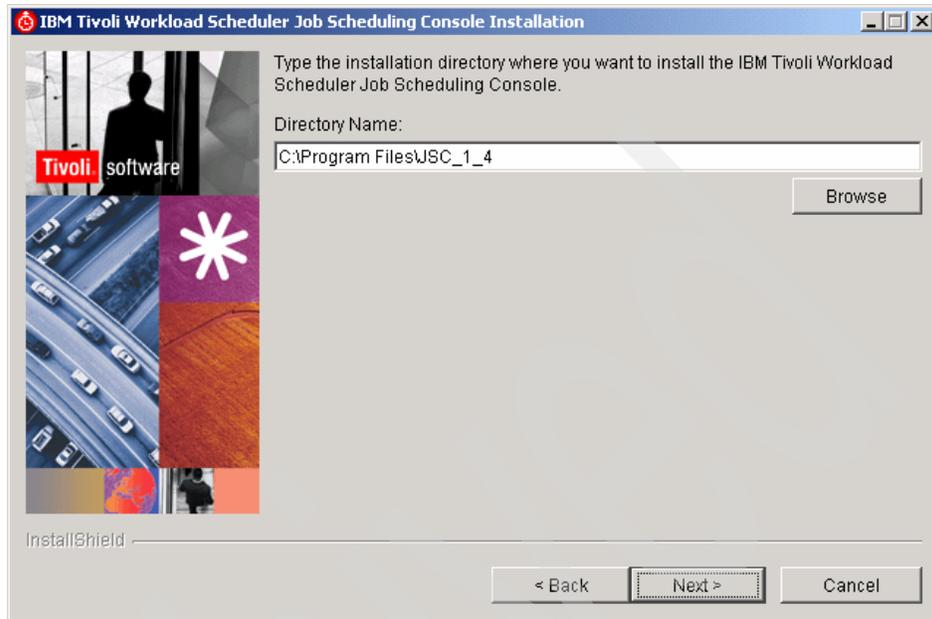

Figure 16-13 JSC Destination Directory
5. Select the destination directory or choose your own directory (Figure 16-13).